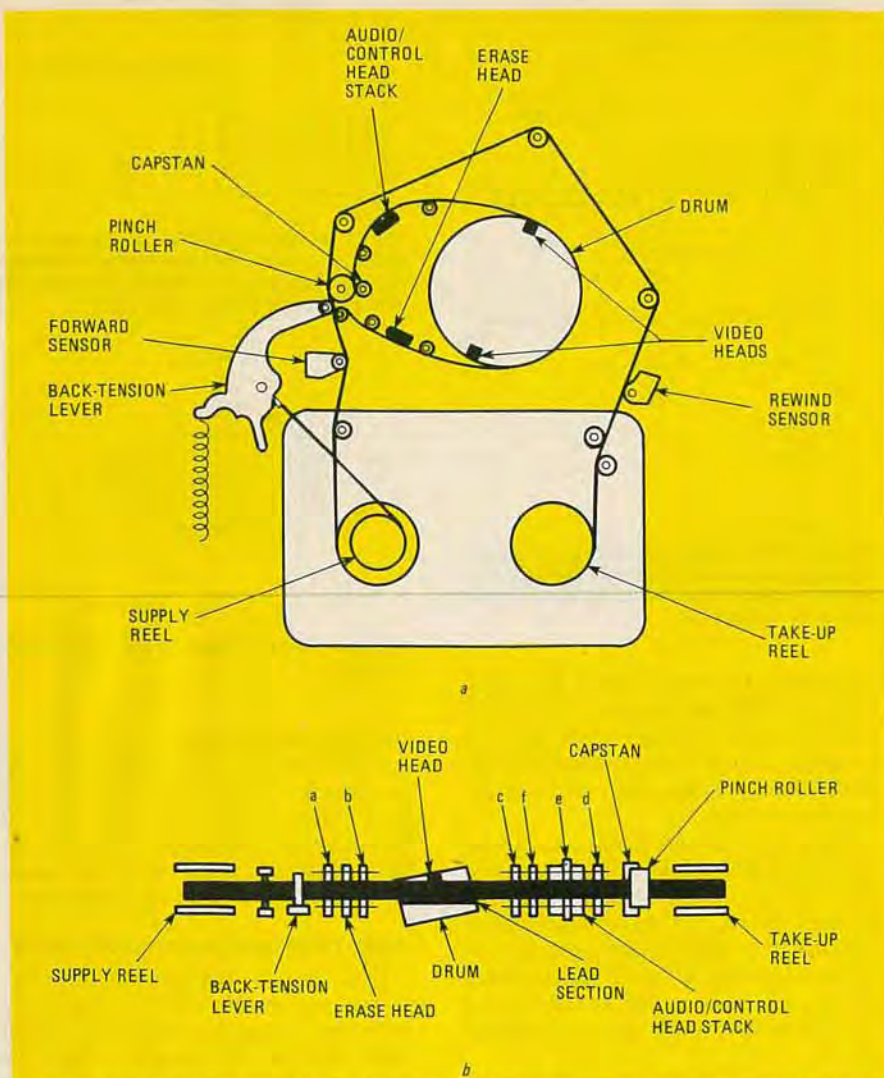

FIG. 22—TAPE PATH for a Beta VCR. Note that the location of the screw adjustments mentioned in the text are shown in b.
Figure 22 shows the tape path for a typical Beta VCR. Clean the drum surface and each tape-guide surface with a soft cloth moistened with alcohol. When
The tape path for most VCR's is critical to proper operation. For that reason, the position and height of the tape guides and heads are precisely adjusted at the factory. Since those components greatly affect normal tape running, never touch them unless necessary. First check operation of the VCR using an alignment tape and a known good monitor or TV. If the playback is good, quit while you are ahead. If you have playback problems, then (and only then) make the following adjustments (which are typical for VCR's with a tape path similar to that shown in Fig. 22).
4. Observe the running state of the tape around the back-tension lever (Fig. 22). If you see any slack at the top or bottom edges, slightly bend the back-tension lever (with the appropriate tool) to
5. Adjust screw B (see Fig. 22-b) so that the top edge of the tape does not hit against the guide at the side below the screw.